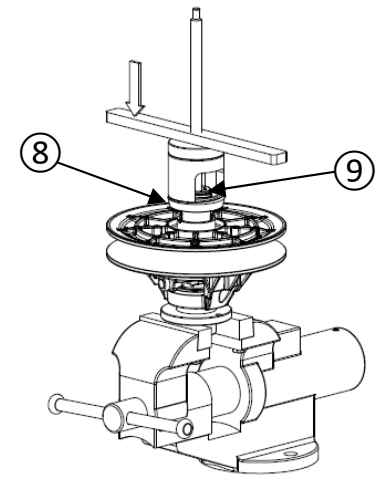
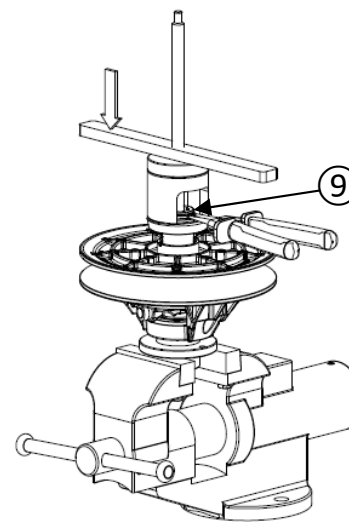

Figure 18
Figure 19
- Install the pulley on the disassembly tool as shown in figure 18.
- By screwing the bar on the threaded rod, press down the spring abutment ⑧ (3 to 4 mm max.) in order to free up the snap ring ⑨.
- Remove the snap ring ⑨ using the snap ring pliers (figure 19).